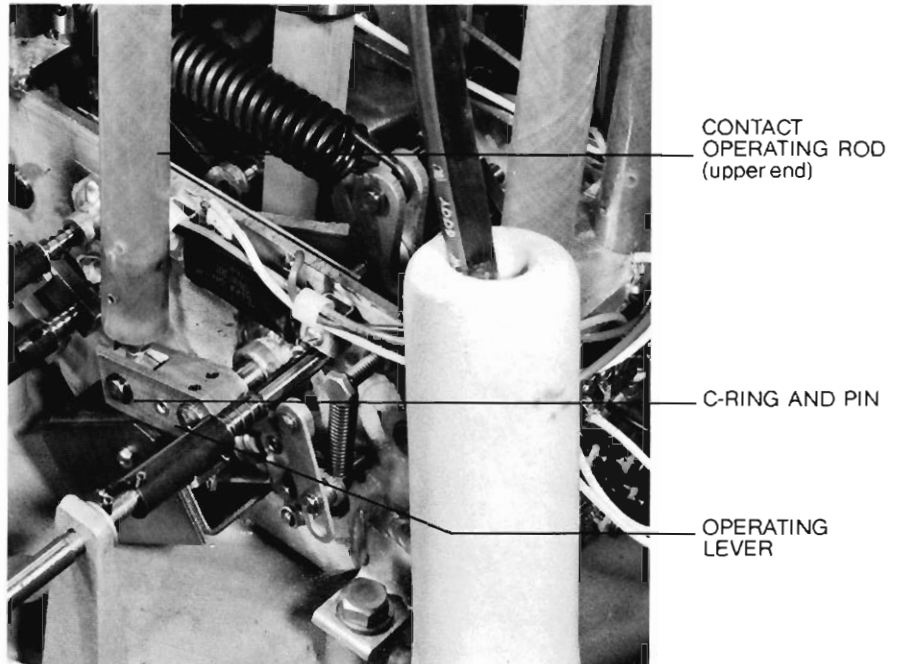

Figure 15.
- B. Disconnect the upper end of the contact operating rod by removing the C-ring and pin which attaches the rod to the operating mechanism lever, Figure 15.
8. Reconnect the upper end of the contact operating rod to the mechanism, Figure 15.
4. Disconnect the upper end of the contact operating rod (Figure 15) by removing the C-ring and pin (items 71 and 72, Figure 36B).